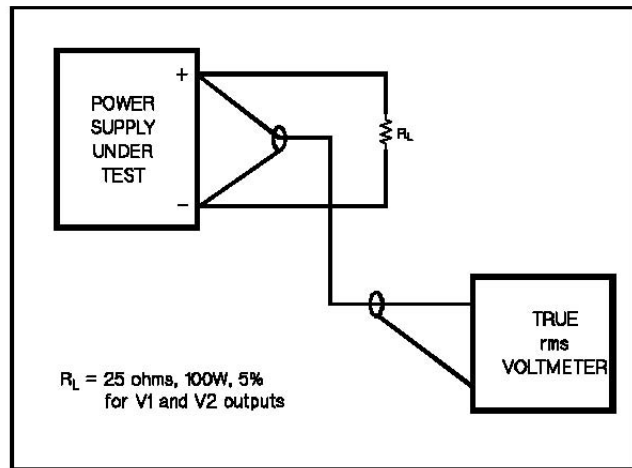

Figure 1-9 Ripple and Noise rms Measurement Test Setup
- 1** Connect the test equipment across the output of the V1 supply as shown in Figure 1-9.
- 5** e.Repeat steps (1) through (4) for the V2 supply.
- 1 Connect the test equipment across the output of the V1 supply as shown in Figure 1-9, but replace the true rms voltmeter with the oscilloscope.
- 6 Repeat steps (1) through (4) for the V2 supply.